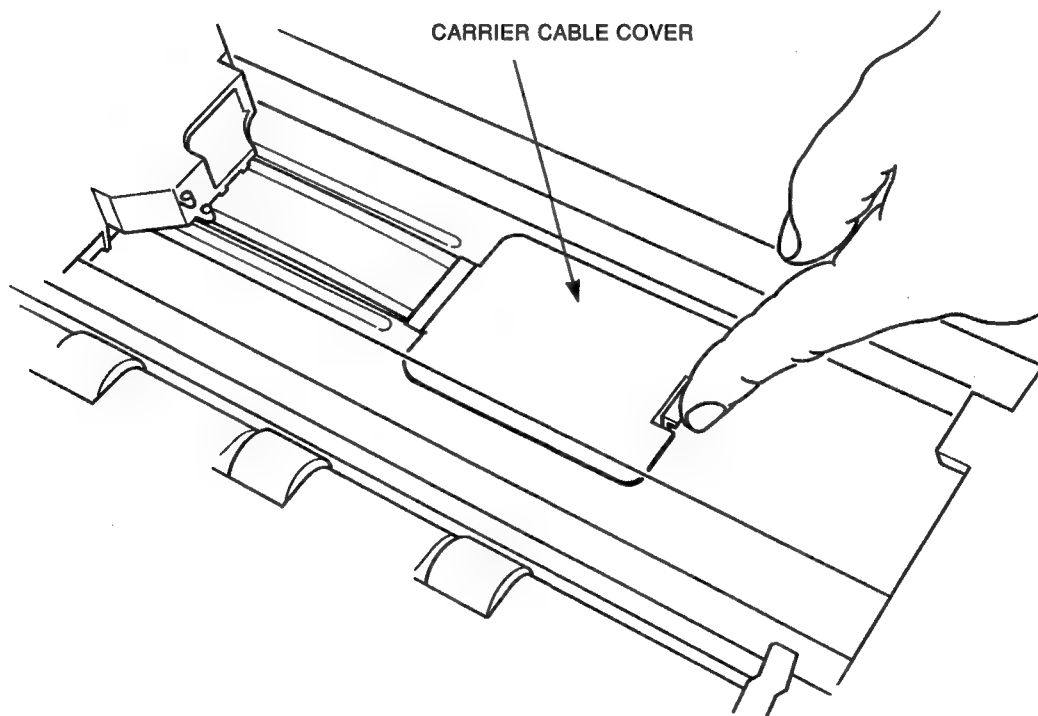

Figure 3-8 Carrier Cable
2. Lift off the carrier cable cover by unlocking the tab (see Figure 3-8).